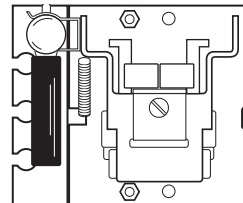

Figure 2
5. Glue switch to clips **B** using a cement such as DuPont Duco, Goodyear Pliobond, Shellac or equivalent, see **Figures 2 and 3**.
2. Glue switch to clips using a cement such as: DuPont Duco, Goodyear Pliobond, Shellac or equivalent. (See Fig. 2).